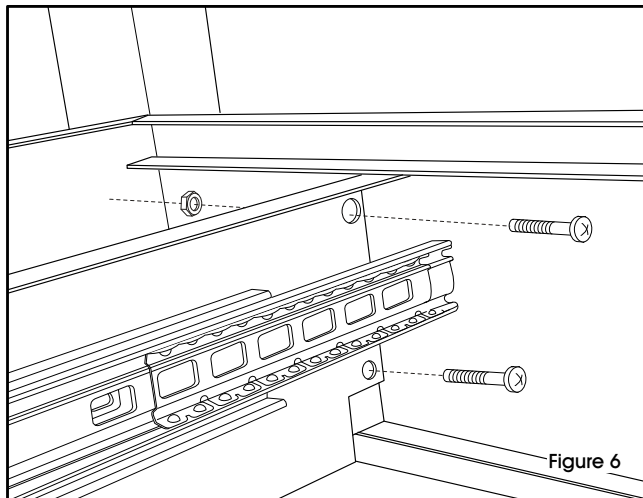

Figure 6
3. Insert drawer tracks into inside of desk top, aligning front and back bolt holes. Drawer slides must face inward. Use 4 large bolts and 4 large nuts to assemble each drawer track to the desk top. (See Figure 6)